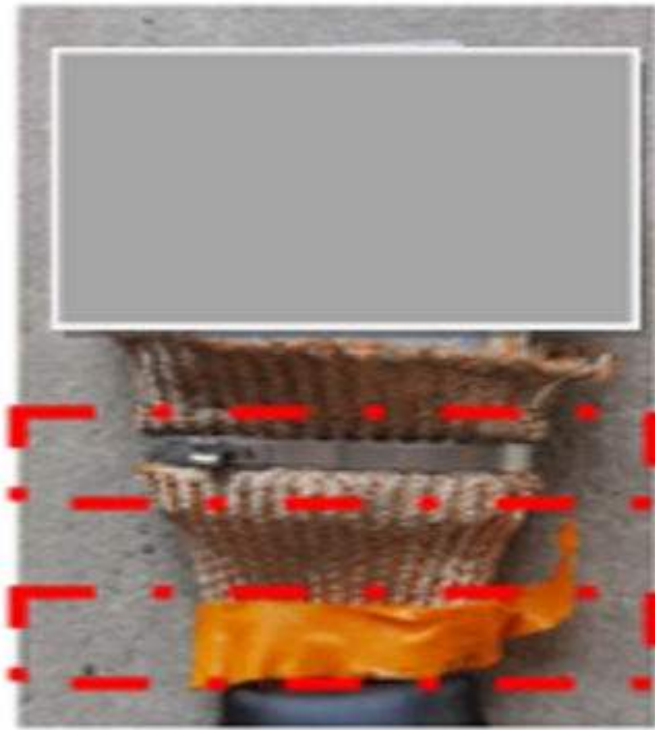

Fig. 5
12. Put back the metal mesh shielding layer around the HV cable harness connector and use the original metal clamp to secure the connector and shielding layer. Wrap with electrical tape Fig. 5.